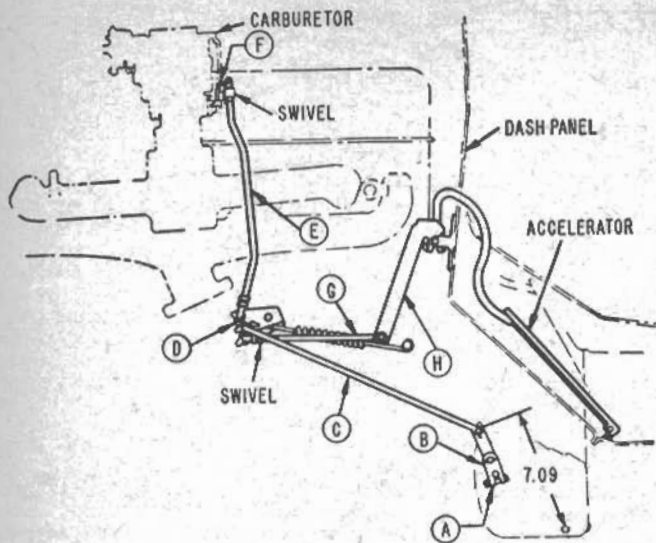

Fig. 28 Throttle linkage adjustment. 1958 Six-cylinder Powerglide
1. Referring to Fig. 28, loosely assemble lever B to clamp A.
2. Insert Gauge J-5906 between transmission left hand side cover lower rear bolt and hole in lever B. Dimension between bolt and hole center lines should be 7.09 inches as shown in Fig. 28. With gauge in place, and holding clamp A counterclockwise in full detent position, tighten lever B to clamp A. Remove gauge.